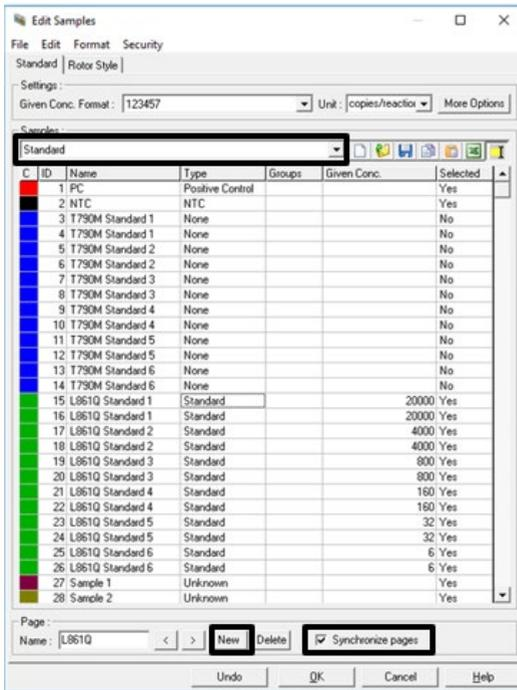

Figure 30. Create a new sample page.
18. Click **More Options > Define Suitabilities**. Select the **Only display this sample page when analyzing data** option (Figure 30).